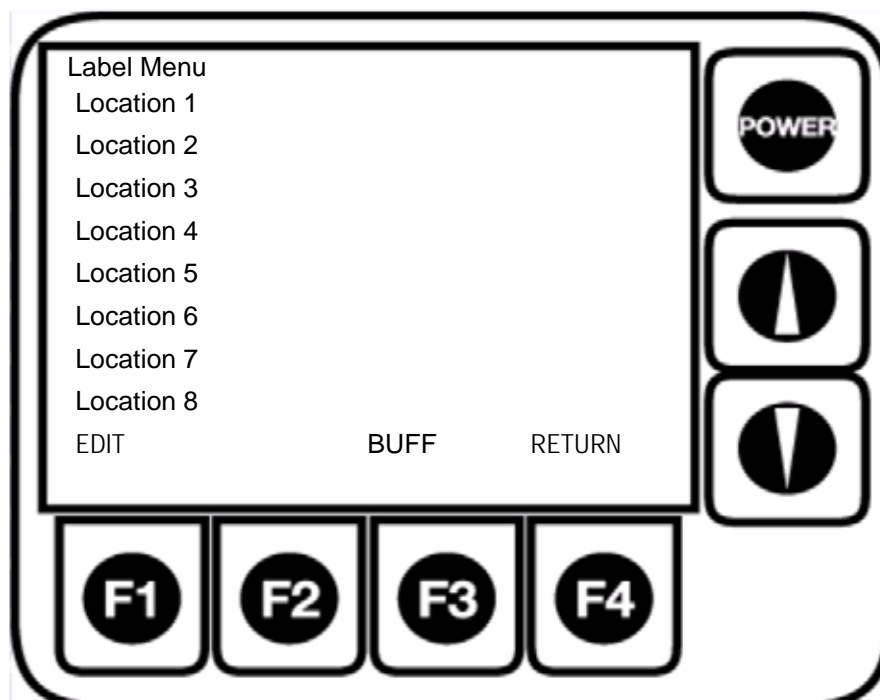

Fig 2-15 : Location Menu
- 1) The buffer review screen is entered by pressing **BUFF** (**F3**) in the location menu as shown in Figure 2-15 on page 30.